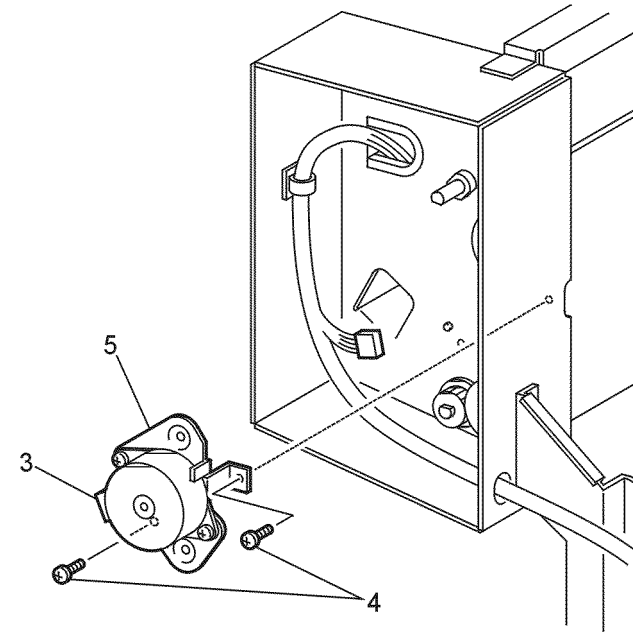

Figure 1 Drive Motor Assembly
4. Remove the two screws that secure the Motor Bracket to the OCT (Figure 1).
5. Remove the Drive Motor and bracket (Figure 1).